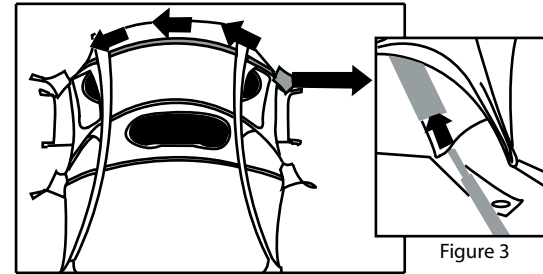

Figure 3
3. Insert the longest of the three poles with grommet tips into the sleeve at the top of the BaseCamp tent (Figure 3, the sleeve runs close to the opening that attaches to your Airstream® trailer).